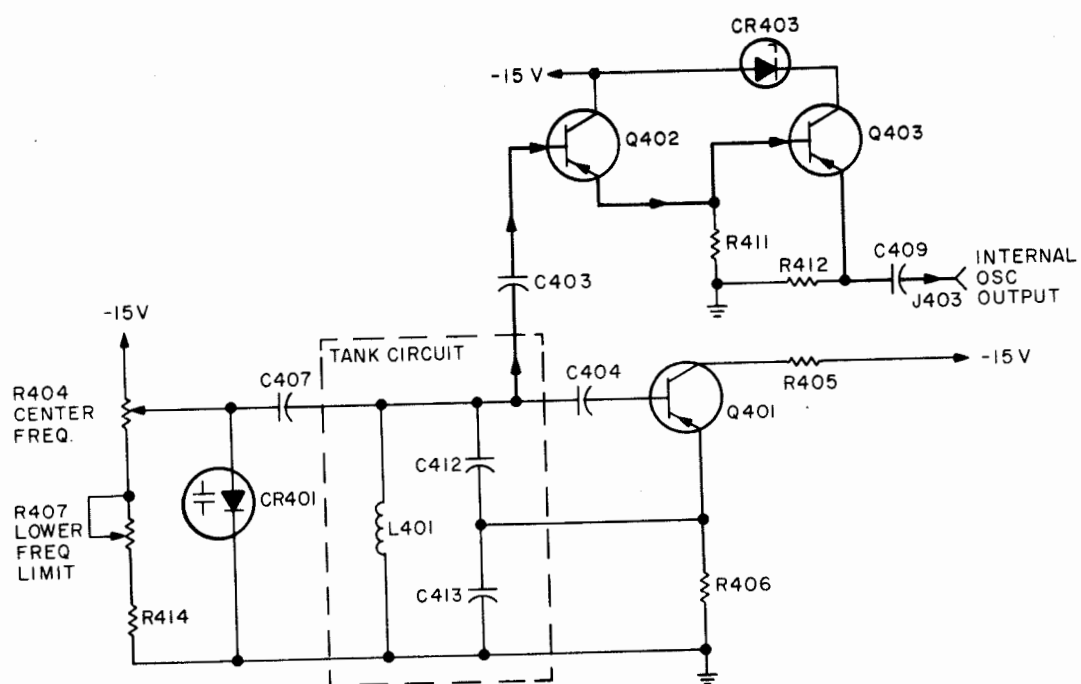
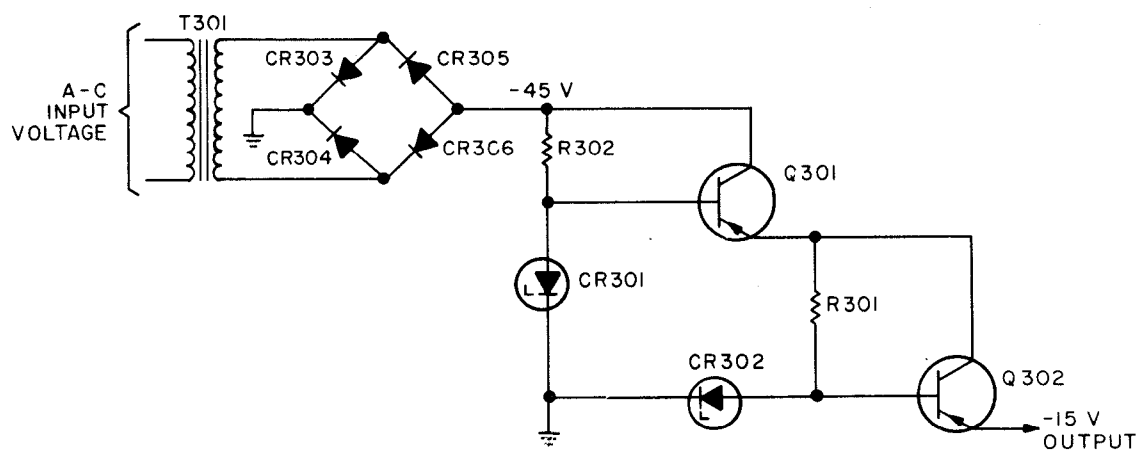

Figure 4-4. Local Oscillator, Simplified Schematic Diagram
Figure 4-5. Power Supply, Simplified Schematic Diagram
c. LOCAL OSCILLATOR. - The local oscillator, figure 4-4, is a modified Hartley, called a Colpitts oscillator. The frequency of oscillation is controlled by voltage divider R404, R407, R414 and voltage-controlled capacitor CR401.
(1) The adjustment of CENTER FREQUENCY control R404 determines the voltage across CR401. This, in turn, determines the capacitance of CR401. Because CR401 is in parallel with the oscillator tank circuit, its capacitance will affect the frequency at which the tank circuit oscillates. In summary, adjusting CENTER FREQUENCY control R404 changes the voltage across CR401, which changes its capacitance causing a shift in oscillator frequency. The oscillator frequency can be adjusted between 2985 kc and 3000 kc.
(2) The oscillator output is applied through capacitor C403 and two emitter followers (Q402 and Q403) to INTERNAL OSC. OUTPUT jack J403. Zener diode CR403 maintains a constant voltage at the collector of Q403. Hence it stabilizes the output voltage.
d. POWER SUPPLY. - The full-wave rectifier in the power supply (figure 4-5) develops -45 volts dc at the collector of control transistor Q301. Zener diode CR301 maintains the base of Q301 at a constant -30 volts dc regardless of fluctuations in the input ac voltage. Zener diode CR302 maintains the base of transistor Q302 at a constant -16 volts dc. Thus, with the collector and base voltages of Q302 held constant, the voltage across the emitter of Q302 is a constant -15 volts dc. This is the B-supply output for the I-f Amplifier and Local Oscillator.